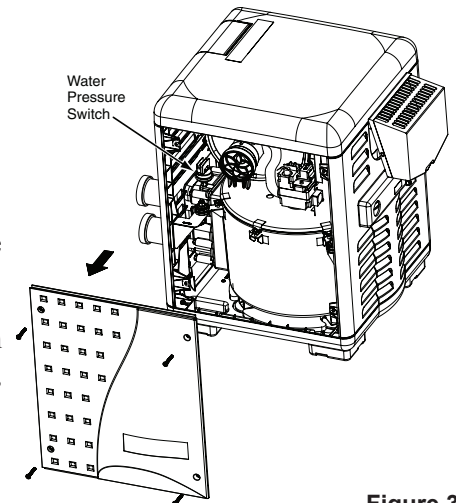

Figure 36.
5. Remove the access door panels by unfastening the four screws located on each door, then lift up and out from the bottom of the panel to remove. If necessary, the screws may be used as handles, see Figure 36.
3. Remove the access door panels, see Figure 36.